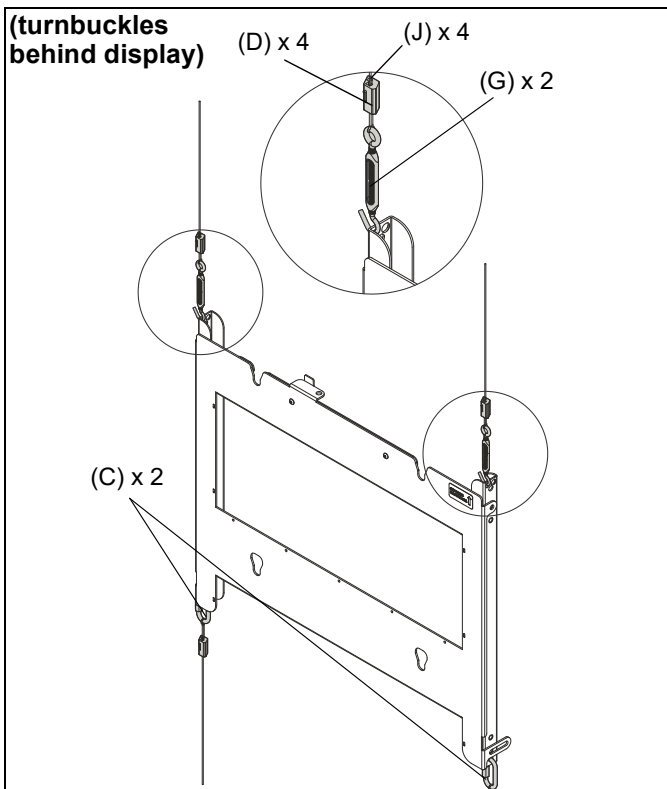

Figure 7
**NOTE:** If connecting turnbuckles (G) behind display, connect turnbuckles into top holes instead of connecting links (C). (See Figure 7)